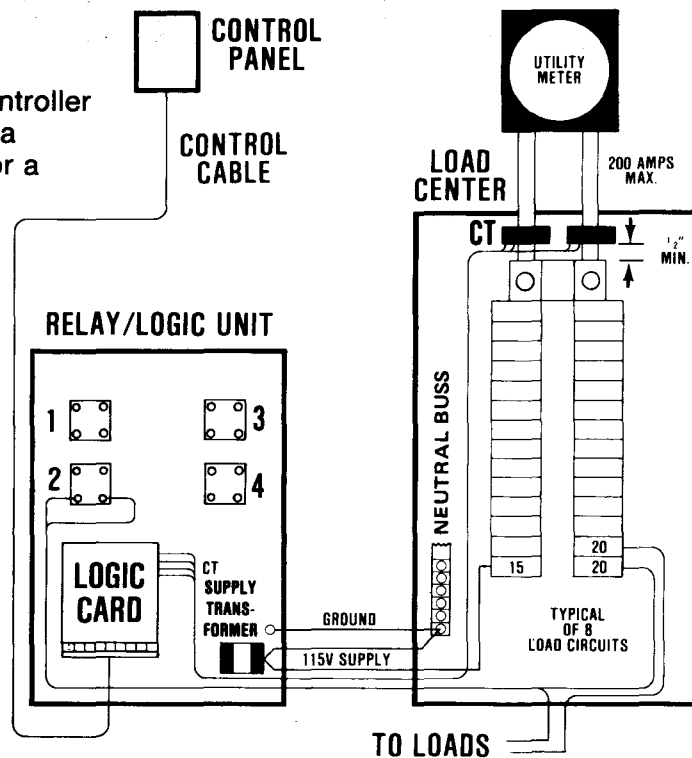

FIG. 1
3. Make holes in the enclosure for wiring relays to the load center and for the control cable as shown in Figure 1.
7. Install a current transformer on each phase of the supply cable between the electric meter and the main breaker as shown in Figure 1.
9. With main power OFF connect one leg of each controlled load in series to the relay contact as shown in Figures 1 through 5.
13. Connect 115V AC power to R/L unit supply transformer using a separate 15 ampere breaker in the load center. See Fig. 1.